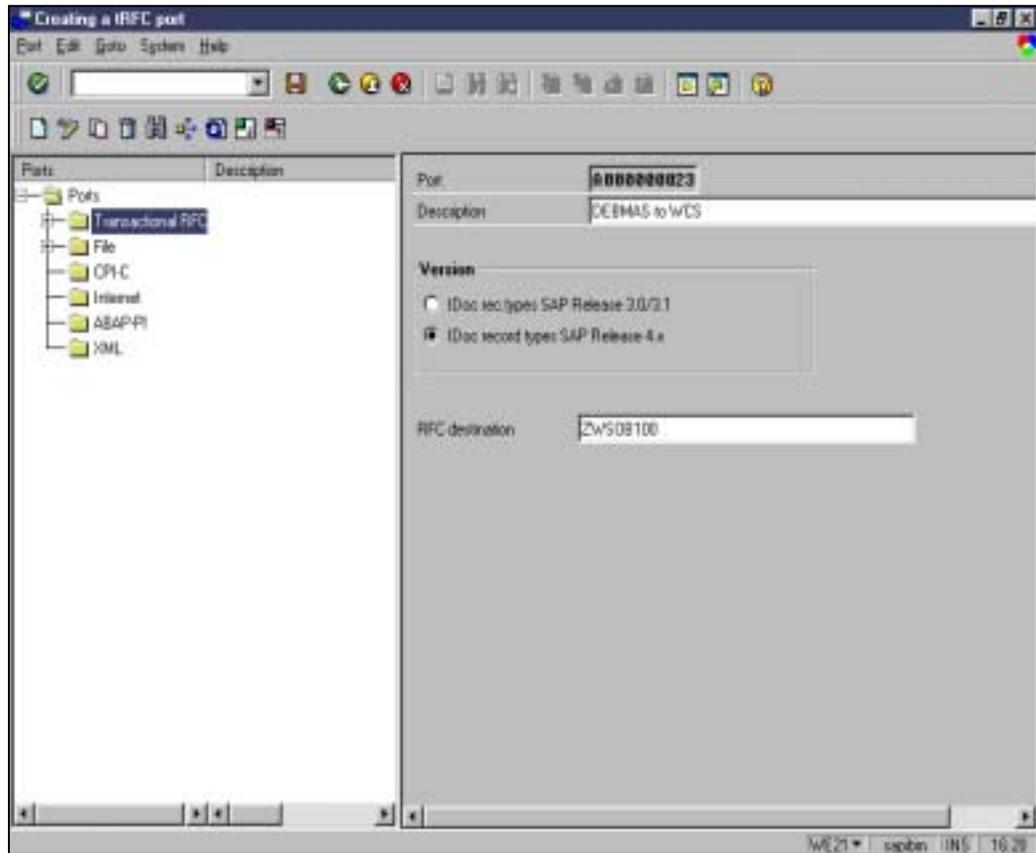

Figure 53: Creating an RFC port dialog
4. Enter a description and RFC destination. Select IDoc record types **Release 4.x**, as shown in Figure 53.